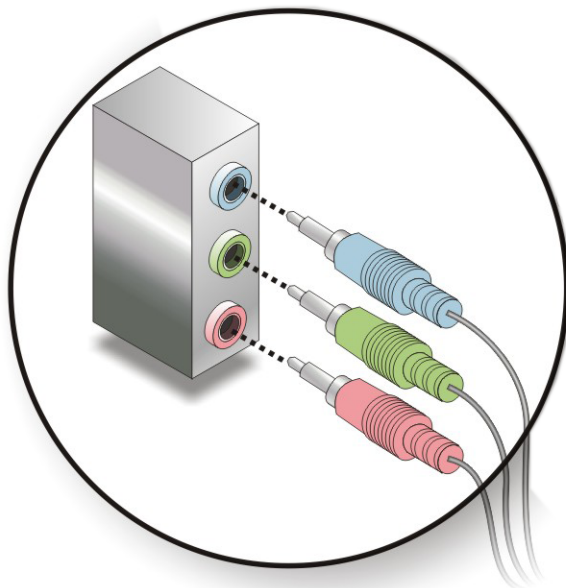

Figure 5-17: Audio Connectors
Step 2: Insert audio phone jack plugs. Insert audio phone jack plugs into the audio phone jacks on the external peripheral interface. See **Figure 5-17**.